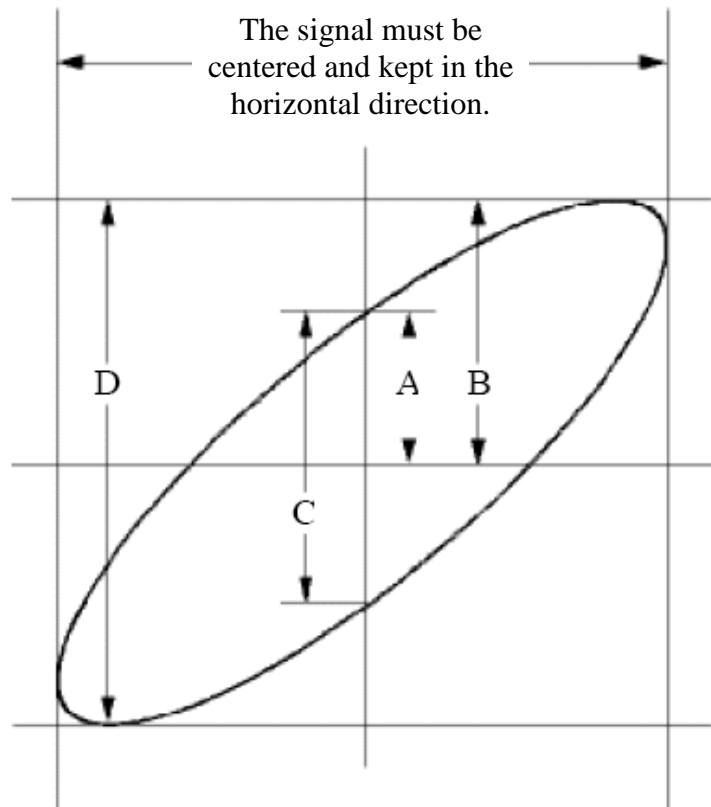

Figure 6-6 Lissajous Graph
- (1) Set the probe menu attenuation coefficient for **10X** and that of the switch in the probe for **10X** (see "How to Set the Probe Attenuation Coefficient" on P11).
- (2) Connect the probe of channel 1 to the input of the network and that of Channel 2 to the output of the network.
- (3) Push the **Autoset** button, with the oscilloscope turning on the signals of the two channels and displaying them in the screen.
- (4) Turn the **Vertical Scale** knob, making the amplitudes of two signals equal in the rough.
- (5) Push the **Acquire** button to display the right menu.
- (6) In the right menu, select **XY Mode** as **ON**. The oscilloscope will display the input and terminal characteristics of the network in the Lissajous graph form.
- (7) Turn the **Vertical Scale** and **Vertical Position** knobs, optimizing the waveform.
- (8) With the elliptical oscillogram method adopted, observe and calculate the phase difference (see *Figure 6-6*).